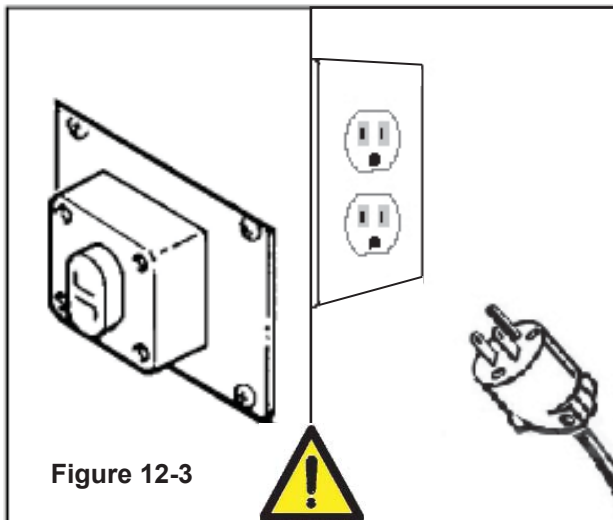

Figure 12-3
Push the main switch ON (I) after the EMERGENCY BUTTON is released (Figure 12-3).
Before carrying out any cleaning or maintenance operation stop the machine by Pushing the OFF (O) switch on the main and disconnect the electric power (Figure 12-3).